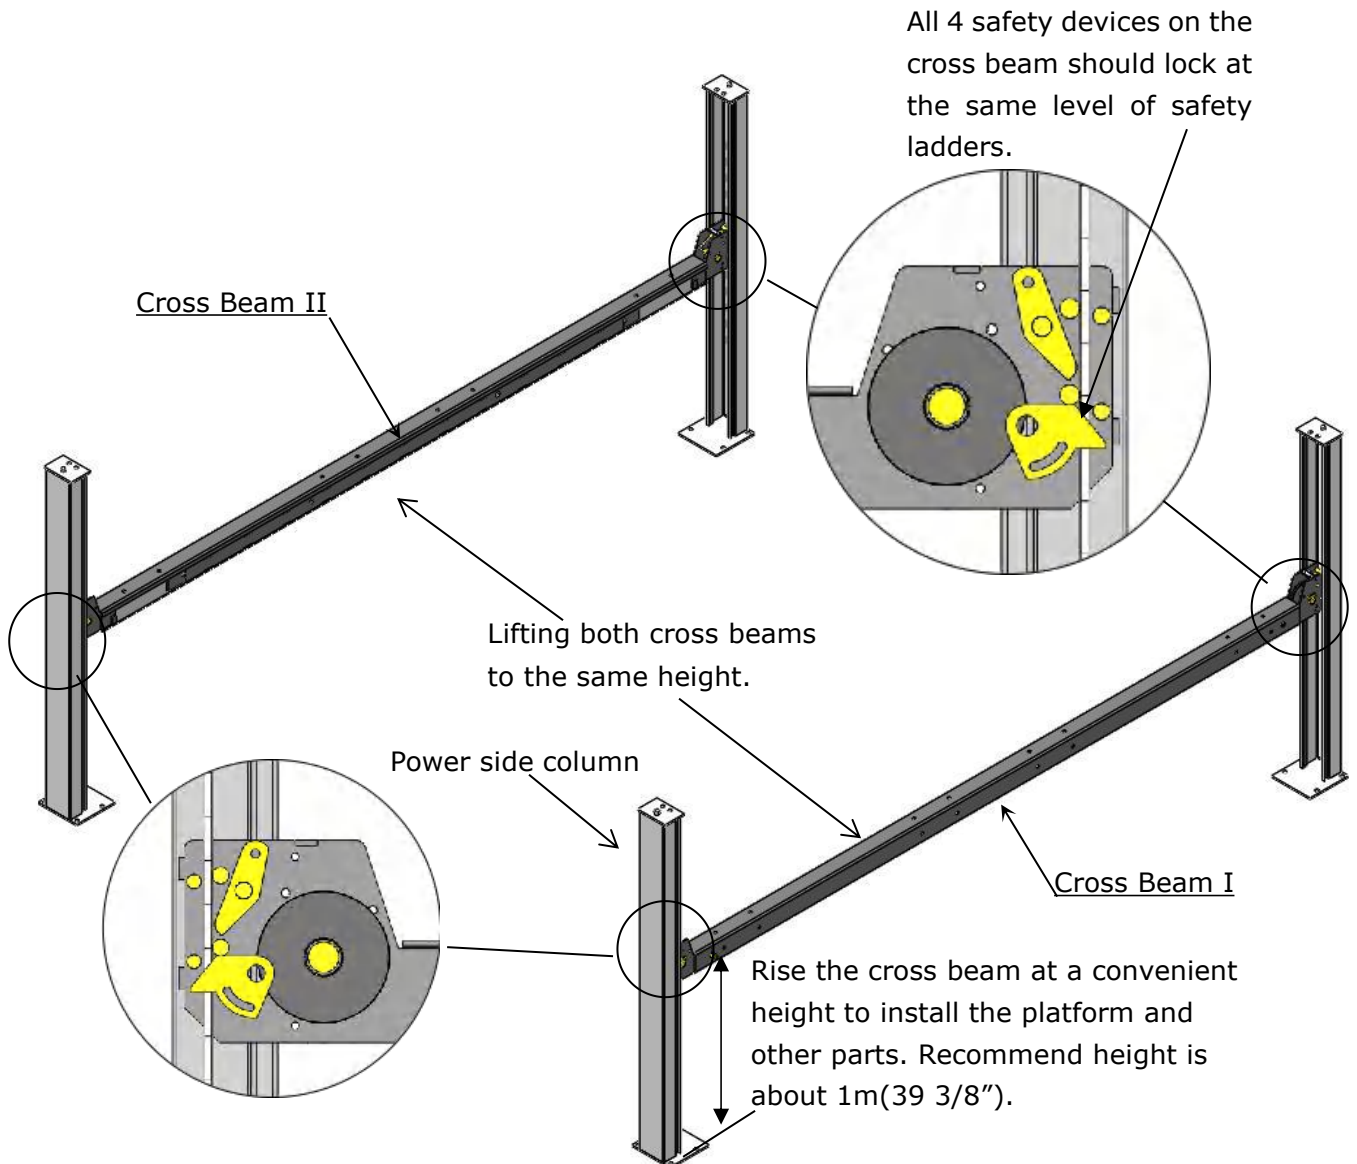

Fig. 19
F. Put the cross beams to the same height and lock at the safety ladder (See Fig. 19).